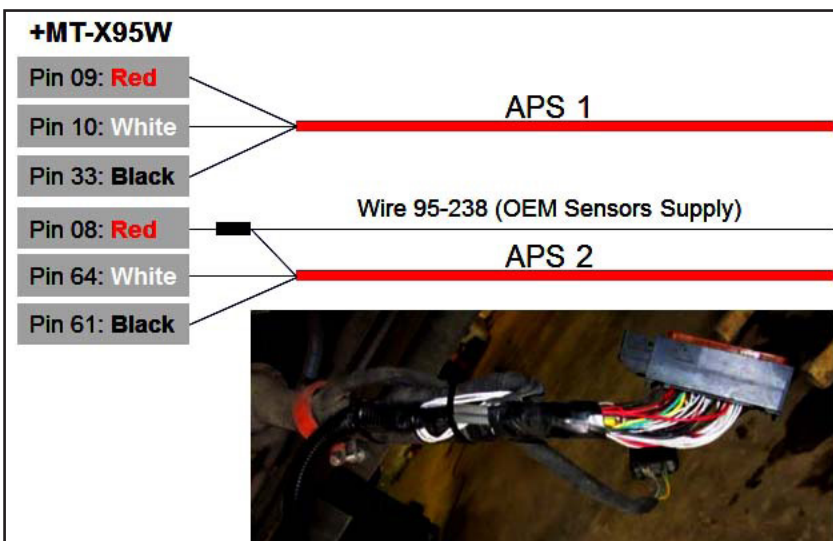

Figure 31 - Positions to be Used for APS 1 and APS 2 Cable Segment Connections
- 2.18. Slide in the two heat shrink tubing segments provided with the front to back cable wire kit over the end of each APS cable segment. Use a heat gun to shrink the tubing at the extremity of each APS cable segment. Insert the terminals from the front-to-back cable into the correct ECM connector positions. Use the wire color and wire label as identification. For APS 1, use positions 9, 10 and 33. For APS 2, use positions 61 and 64 to install five of the six new wires of the front to back cable (see Figure 31).